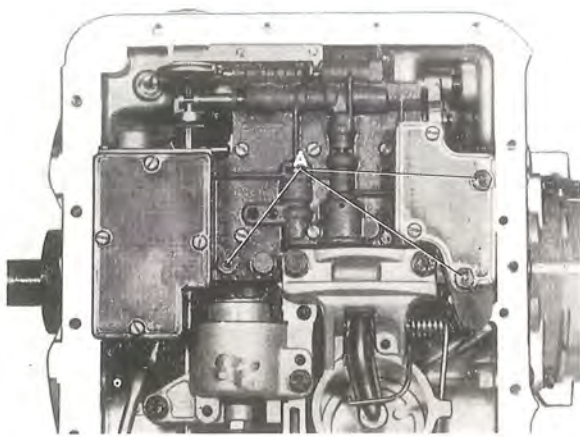

Fig. 4-80. Valve bodies assembly
4. Disconnect the downshift valve cable from the downshift valve cam. Unscrew the three screws which retain the valve bodies assembly to the gearbox housing, see Fig. 4-80. Lift the valve bodies assembly straight up so that it releases from the oil tubes at the front end.